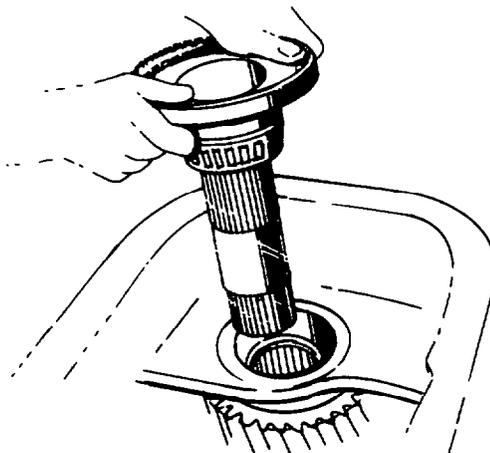

Fig. 239 — Removing Drive Shaft Assembly
- ag. Position the transfer case vertically with the rear of the case facing up. Remove the drive shaft assembly and thrust washer from the case (see fig. 239).